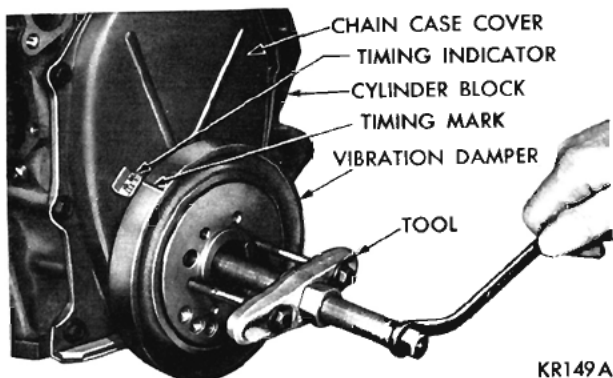

Fig. 84—Removing Vibration Damper Assembly Using Tool C-3688
- (1) Drain the cooling system and remove the radiator and water pump assembly.
- (2) Remove the bolt holding the vibration damper on the crankshaft.
- (3) Remove two of the pulley bolts, install Tool C-3688 and pull the damper assembly off the end of crankshaft, as shown in Figure 84.
- (4) On the 273 and 318 cubic inch engines remove the fuel line and fuel pump.
- (5) Remove the chain case cover and gasket, using extreme caution to avoid damaging the oil pan gasket. It is normal to find particles of neoprene collected between the crankshaft seal retainer and the crankshaft oil slinger.
- (6) Slide the crankshaft oil slinger off the end of the crankshaft.
- (7) Remove the camshaft sprocket attaching bolt.
- (8) Remove the timing chain with the crankshaft and camshaft sprockets.